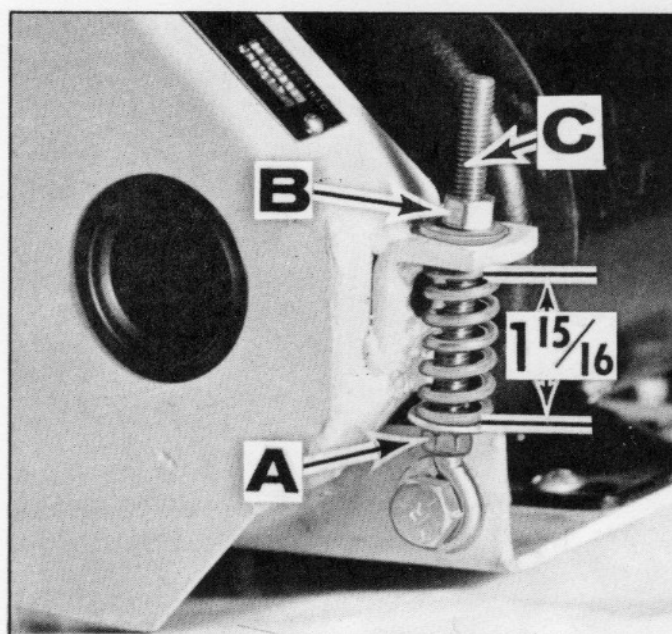

Figure 10. Drive Chain Adjustment
- A. Remove all tension from the adjusting bolt C at the rear of the machine (Fig. 10).